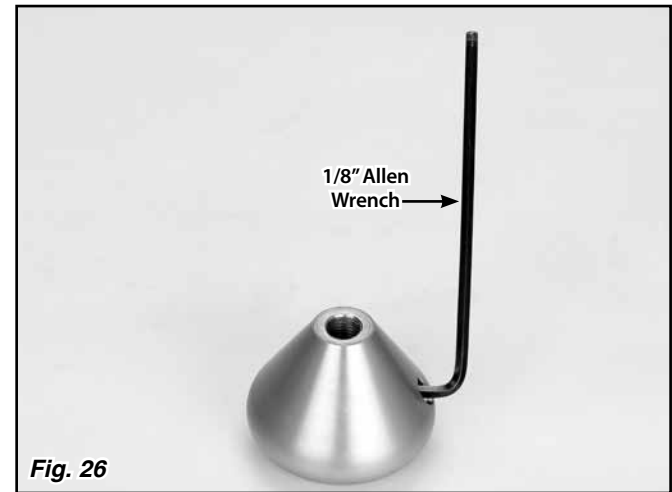

Fig. 26
**Step 11:** Turn the knob upside down. Use a 1/8" Allen wrench to loosen the set screw in the shifter knob just enough for the release button to slide out of the shifter knob. The release button will usually not just fall out. You will likely need to push the release button out with a screwdriver or the end of the Allen wrench. **Fig. 26**